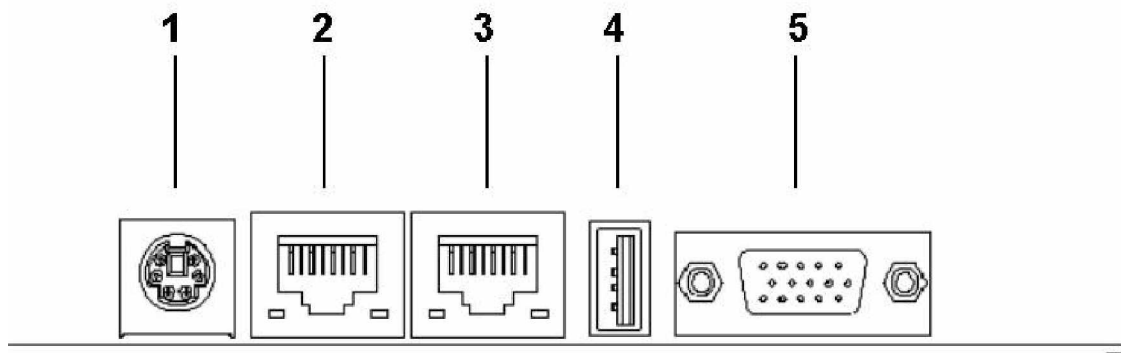

Figure 3-18: 3301690 CPU Board Rear Panel
Figure 3-18 shows the 3301690 CPU board rear panel. The peripheral connectors on the back panel can be connected to devices externally when the CPU card is installed in a chassis. The peripheral connectors on the rear panel are:
**CN Location:** See Figure 3-18 (labeled number 1)
**CN Location:** See **Figure 3-18** (labeled number 2)
**CN Location:** See **Figure 3-18** (labeled number 5)
**CN Location:** See **Figure 3-18** (labeled number 7)